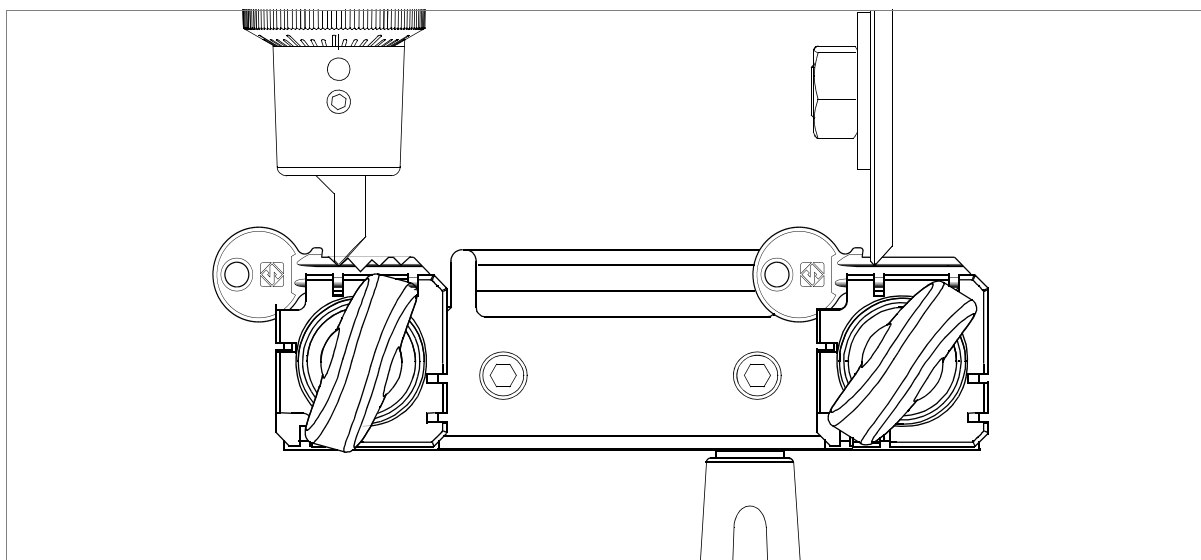

Fig. 34
- 3) Take the carriage towards the tracer point/cutter (fig. 34).
- 5) Turn off the machine with witch (U) before removing the duplicated key.
- 7) Turn on the machine with switch (U) and smooth off the key edges by means of the brush (P).